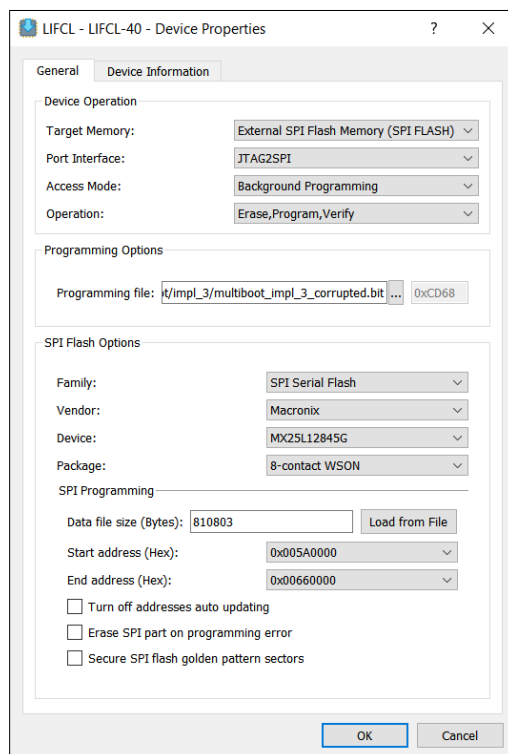

Figure 7.11. Reprogram Corrupted Image
2. Reprogram a corrupted image (multiboot/impl_3/multiboot_impl_3_corrupted.bit) at Start Address: 0x005A0000 using Background Programming mode (Figure 7.11).